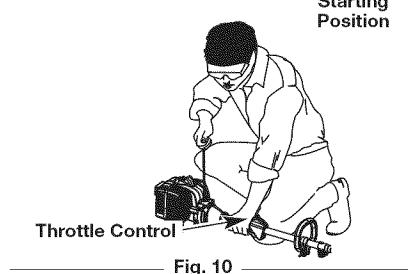

Fig. 10
WARNING: Avoid accidental starting. Make sure to be in the starting position when pulling the starter rope (Fig. 10). To avoid serious injury, the operator and unit must be in a stable position while starting.
5. Crouch in the starting position (Fig. 10). Do not squeeze the throttle. Pull the starter rope with a controlled motion until the unit starts.
5. Crouch in the starting position (Fig. 10). Do not squeeze the throttle. Place the Plug-In Power Start or Power Bit Start into the back of the unit. Refer to the Operation section of the Plug-In Power Start or Power Bit Start operator's manual.
6. Press and hold the ON (I) button of the Plug-in Power Start or Power Bit Start equipped drill in intervals no longer than 4 seconds each until the unit starts.
7. Wait and allow the unit to idle for 5 - 10 seconds. If the unit stops running during this time, squeeze the throttle control, then press and hold the ON (I) button of the Plug-in Power Start or Power Bit Start equipped drill in intervals no longer than 4 seconds each until the unit starts.